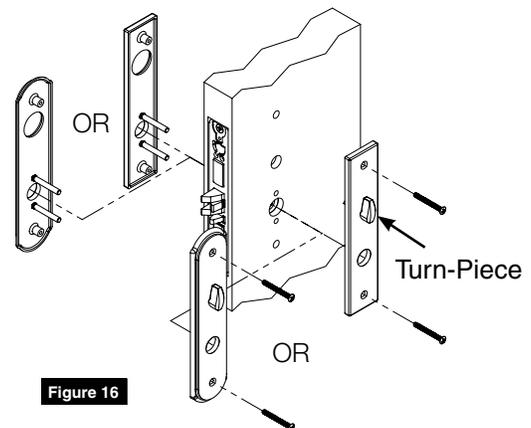

Figure 16
3. Mount escutcheons. (Figure 16)